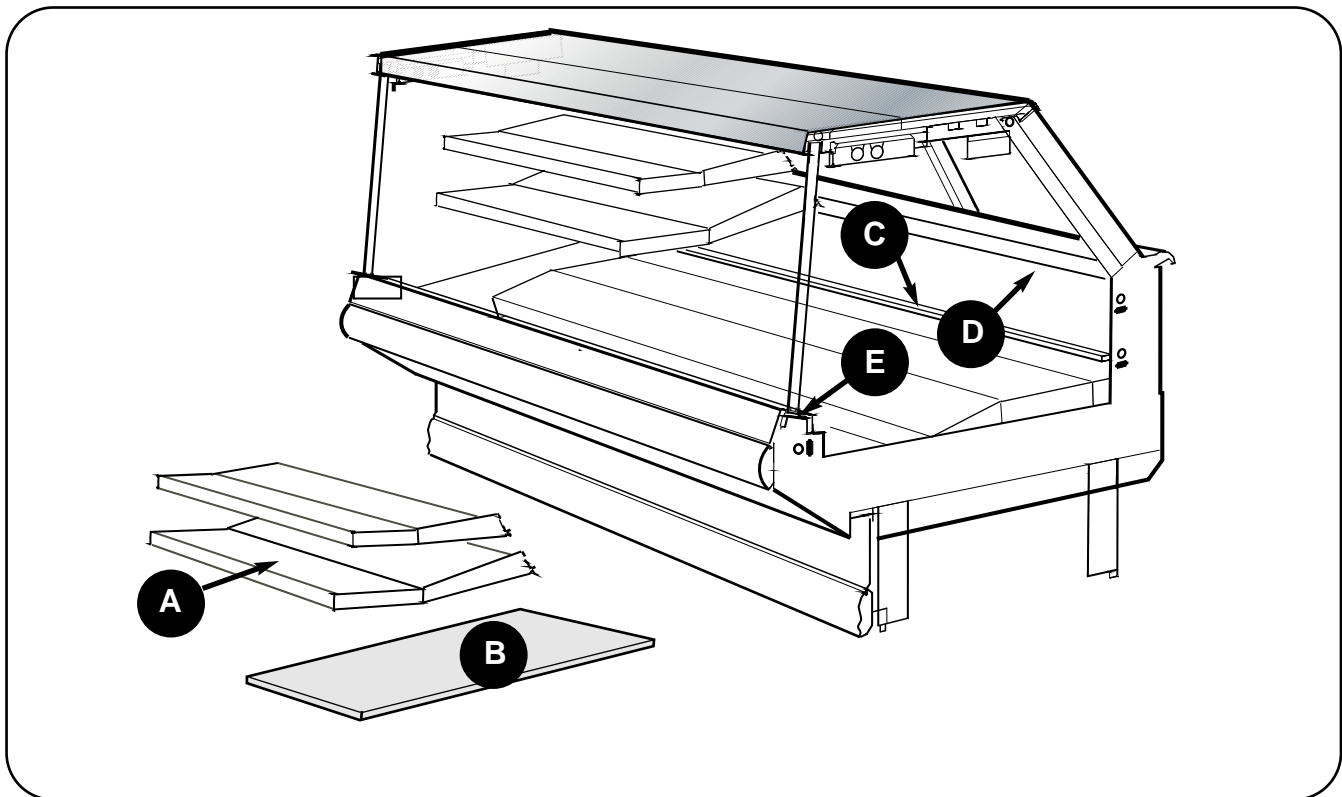

Figure 1. Removing Items from Case
- from case. **See Figure 1.**